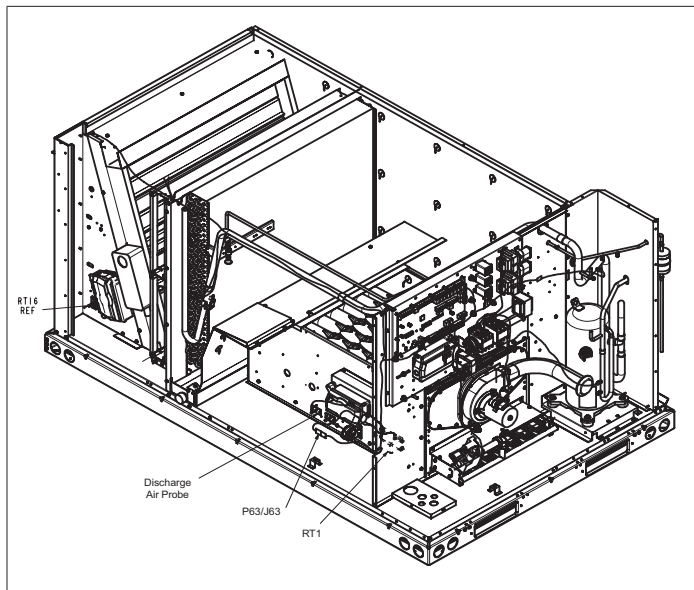

Figure 7. Routing J63 RT1 Harness (036,060 Units)
- SCC/SGC 036/060 units: see "Figure 7. Routing J63 RT1 Harness (036,060 Units)" on page 3.